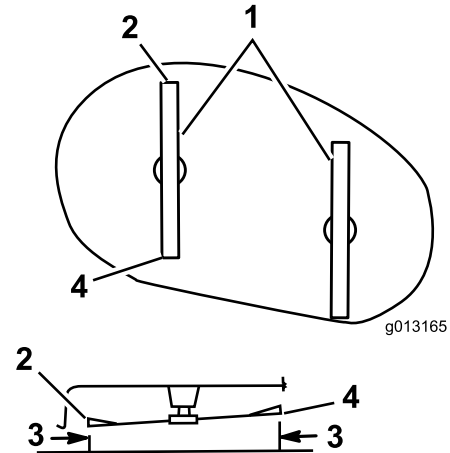

Figure 43
1. Measure the distance between the front tip of the left blade and the flat surface (Figure 43). Repeat for the rear tip of the left blade.